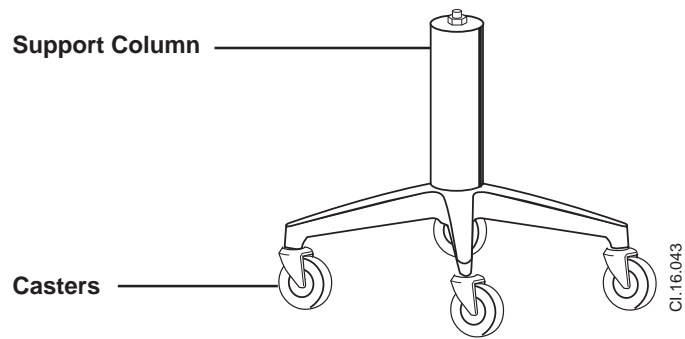

Figure 1
2. Now turn the base upright (See Figure 1). Pick up the upper unit (Figure 2) and place it on the base. Make sure that the large hole in the extrusion under the shelf fits all the way onto the support column. Align the upper unit with the shelf between two casters. Tighten the bolts with the T" wrench provided.